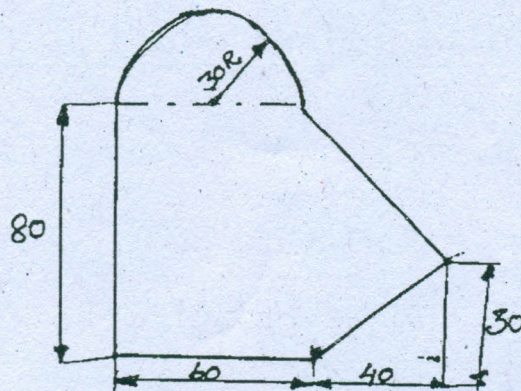

Fig. 3
- (b) (i) Determine the centre of pressure of the given component shown in fig3. (12)
- (ii) Write a note on staggering of punches. (4)